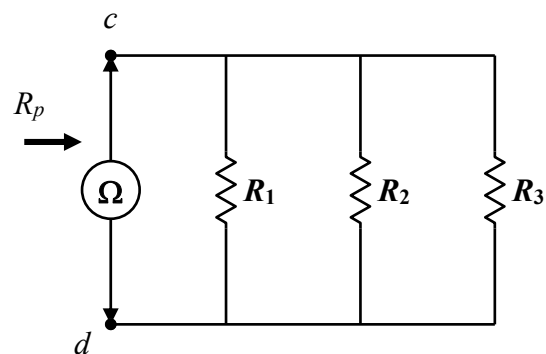

Figure 2.4b
24. Measure the resistance R_p between Nodes c and d (**Figure 2.4b**). Record as $R_{p,m}$ at the bottom left of **Table 2-4**.